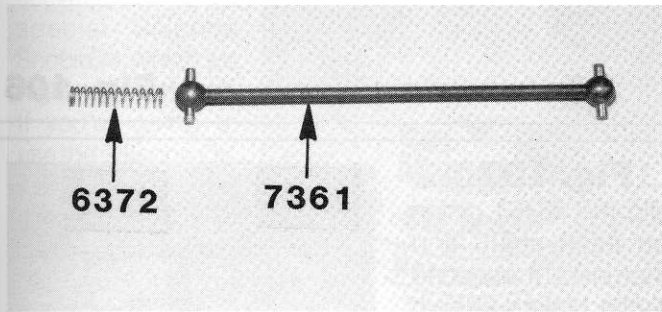

Fig. 98
□ **Figs. 98 & 99** From Bag 7-8, take the #6372 dogbone spring and install it inside the #6374 outer axle. Then align the slots and slip the #7361 dogbone in place. (Note: the technical term is 'rear half shaft', but 'dogbone' is more popular among racers.) Do the right hand side.